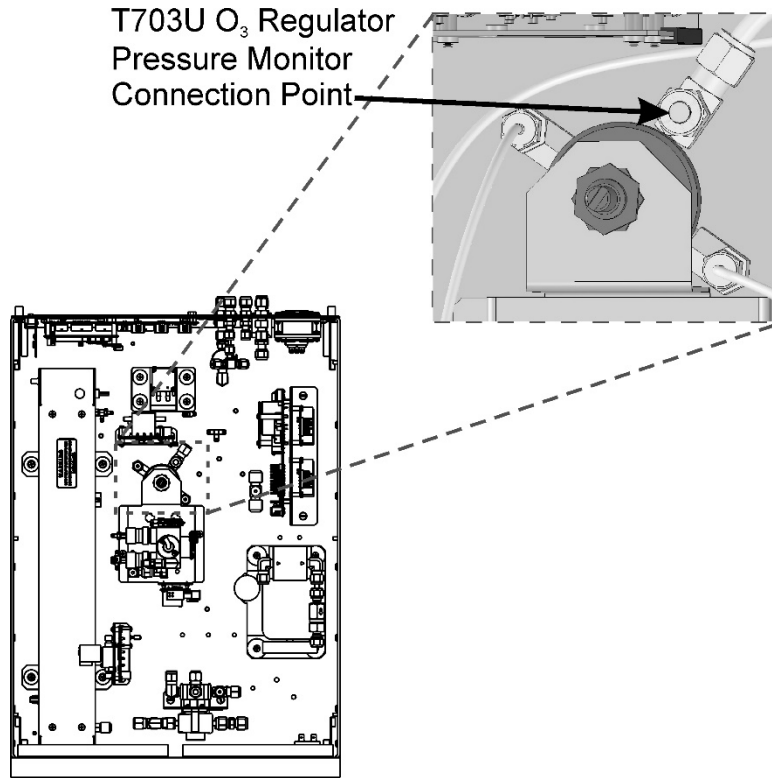

Figure 5-4. O₃ Regulator Pressure Monitor Point (T703U only)
3. If the unit is a T703U, also connect a pressure meter to the O₃ Regulator (Figure 5-4)